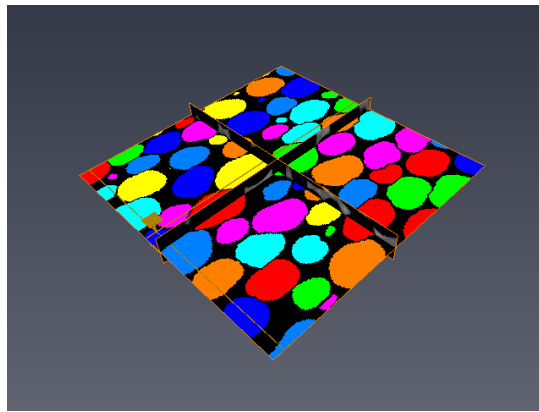

Figure 6.13: Point dragger (brown lines crossing) in the 3D viewer corresponding to row 82
- Click on the label seek button of the analysis panel toolbar (see Figure 6.12). A new *Ortho Slice* is automatically attached to the separated image and displayed in the 3D viewer, as well as a point dragger (see Figure 6.13).